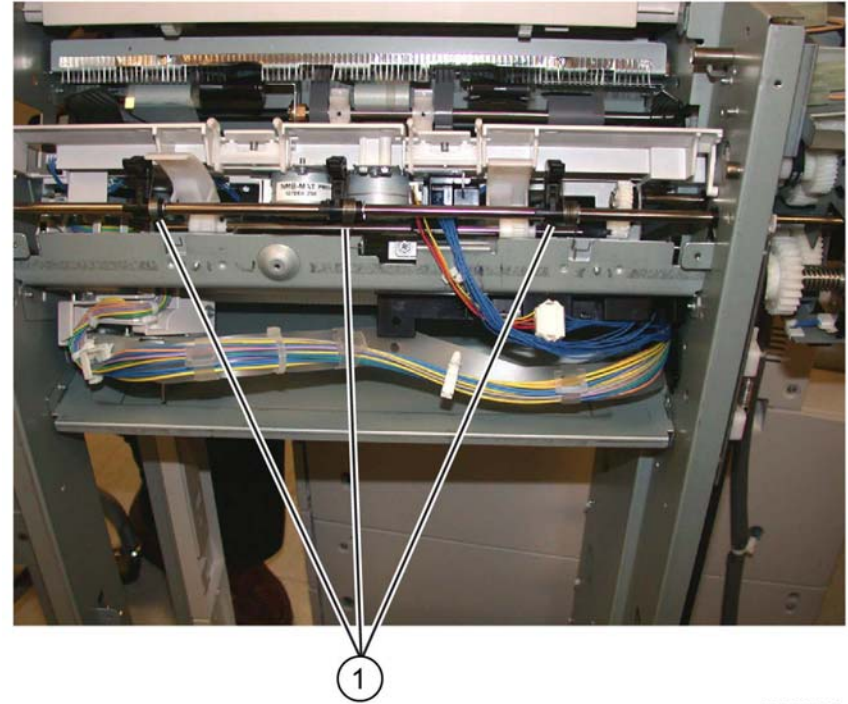

Figure 12 Preparing to install the holder springs
4. Slide the three set clamp holders with springs (1) into the correct location on the shaft, **Figure 12**.